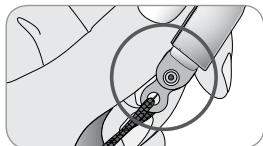

Fig. 34
4. Secure clip lock by rotating it clockwise (Fig. 34). This will reduce risk that patient can remove clip.
3. Clip lock is engaged (Fig. 34).